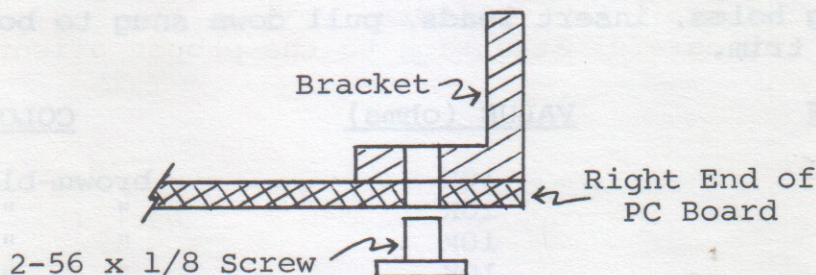

Figure 4-2. Handle bracket (Sol-1045) installation.
- (↓) Step 6. Using two 2-56 x 1/8 binder head screws, install handle bracket (Sol-1045). Position bracket on front (component) side of board at the right end as shown in Figure 4-2. Align bracket holes with mounting holes in board, insert screws from back (solder) side of board and drive into bracket. No nuts are needed since the bracket holes are tapped.